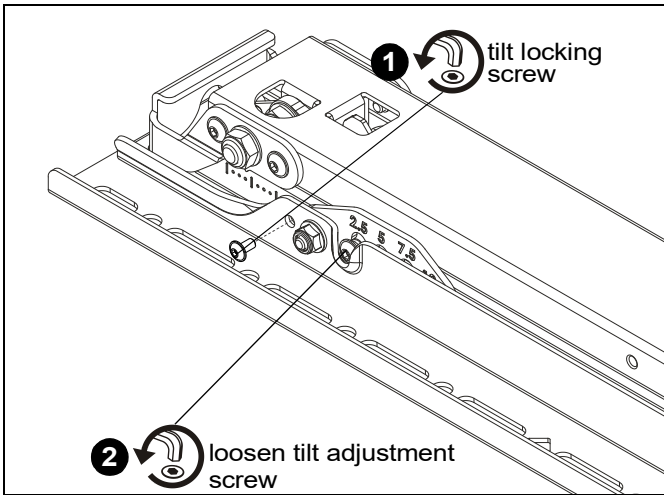

Figure 30
1. With display removed from mount, remove home tilt locking screws from interface brackets (A and B). (See Figure 30)
2. Loosen tilt adjustment screws on interface brackets (A and B). (See Figure 30)